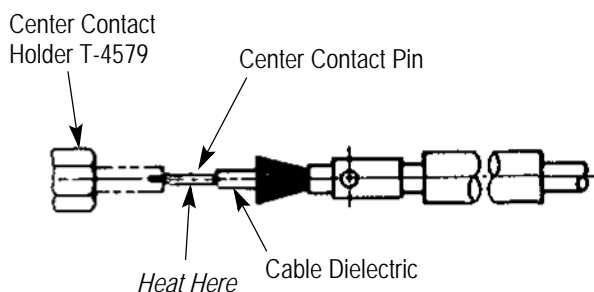

Figure 4
### 2.2. Soldering Center Contact to Inner Conductor (Figure 4)
2. Place center contact in center contact holder (see Figure 4)